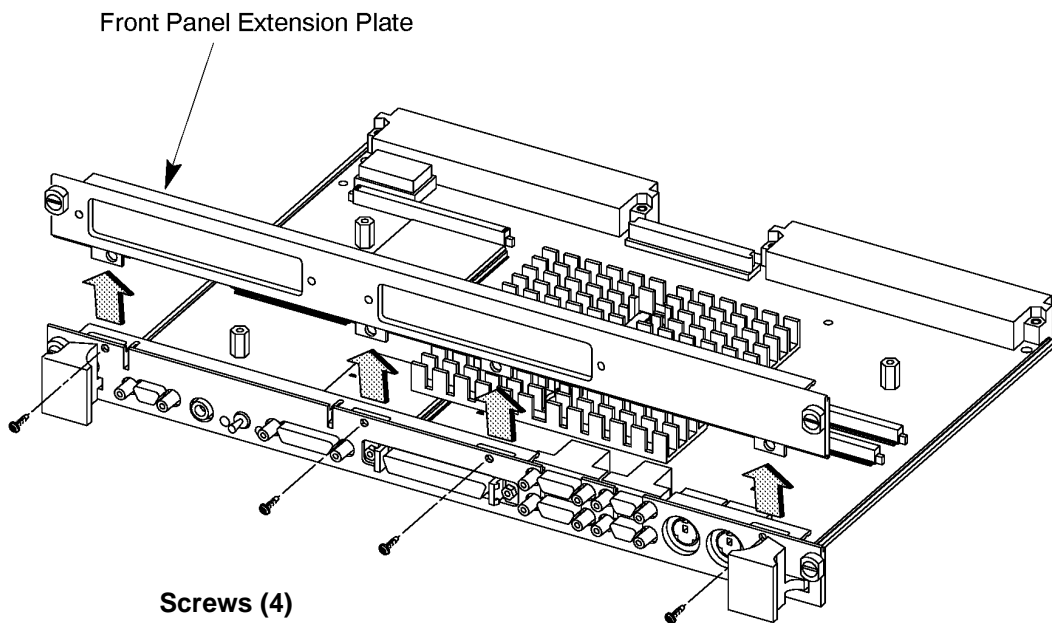

Figure 3 Removing GSC Expansion Bezel
- 6 Remove GSC expansion bezel from the board computer, if installed, as shown in Figure 3.